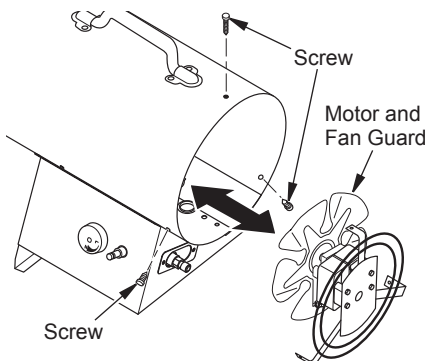

Figure 9 - Removing/Replacing Motor and Fan Guard from Heater
2. Remove motor and fan guard from heater shell (see Figure 9).
14. Insert three screws through heater shell and into fan guard (see Figure 9). Tighten screws firmly.
8. Place motor and fan guard into rear of heater shell. Make sure power cord is properly located (see Figure 9).